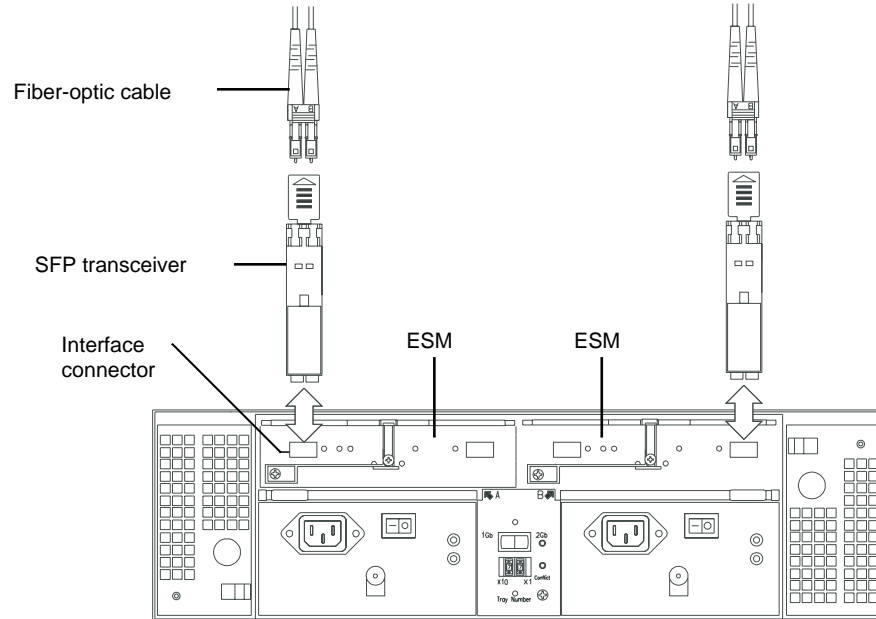

Figure 4-5 Removing and Installing an SFP Transceiver
5. Wearing antistatic protection, remove the Fibre Channel cables from the failed SFP transceiver (see Figure 4-5).
Note: Figure 4-5 shows SFPs being replaced in an expansion enclosure. The procedure is the same for controller enclosures.
9. Check the bypass indicator next to the new SFP transceiver as follows (see Figure 4-5):
5. Disconnect the Fibre Channel cables from the SFP transceivers in the failed controller module and then remove the SFP transceivers (see Figure 4-5). Label each cable to ensure that all cables are properly reconnected to the new module.
11. Check the power and fault indicators on the new controller as follows (see Figure 4-5):